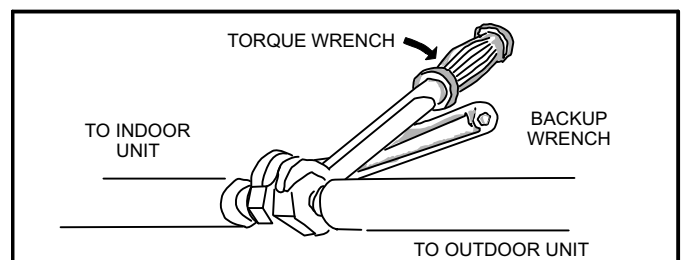
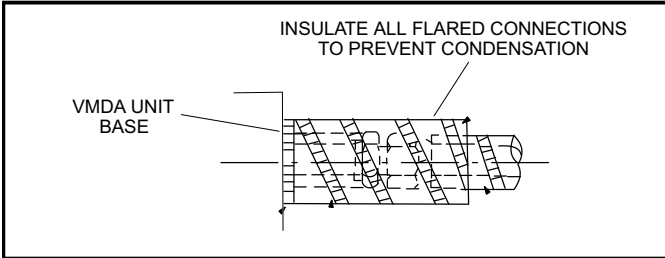

Figure 7. Tighten Flare Nut
Figure 8. Insulate Flared Connections
- 7 - Once snug, continue another half-turn on each nut which should create a leak-free joint. A torque wrench may be used to tighten flare nuts using table 2 recommendations. (see figure 7). **Do not over-tighten a flared joint. Flared connections should always be accessible and must be insulated to prevent condensation. See figure 8.**